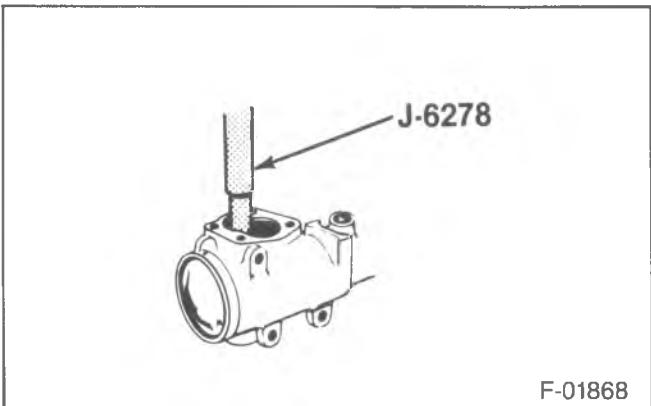

Figure 5—Removing the Pitman Shaft Bearing
9. Bearing (209). If necessary, use tool J-6278 (figure 5).
10. Rack piston (214) and balls (213).
- Insert tool J-21552 into the rack piston bore with the pilot of the tool seated into the end of the worm (248).